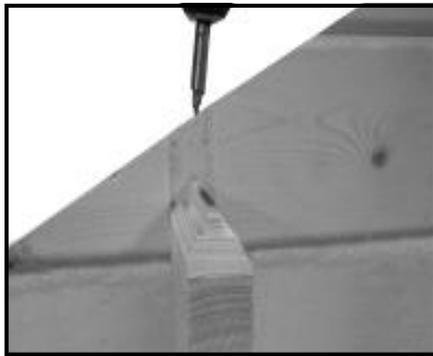

Fig G1
- Fix the gable with 1x80mm screw at each end (fig G1 and as shown on the drawing pages (Some screws may go into roof joists)